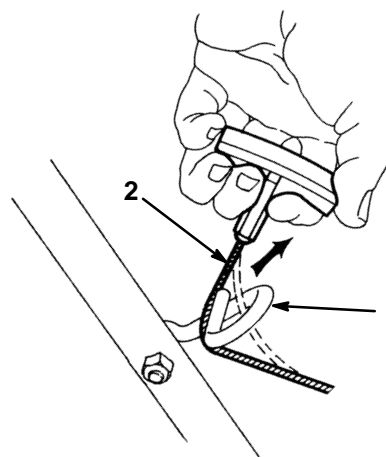

Figure 3
5. Pull starter rope through rope guide on handle (Fig. 3).